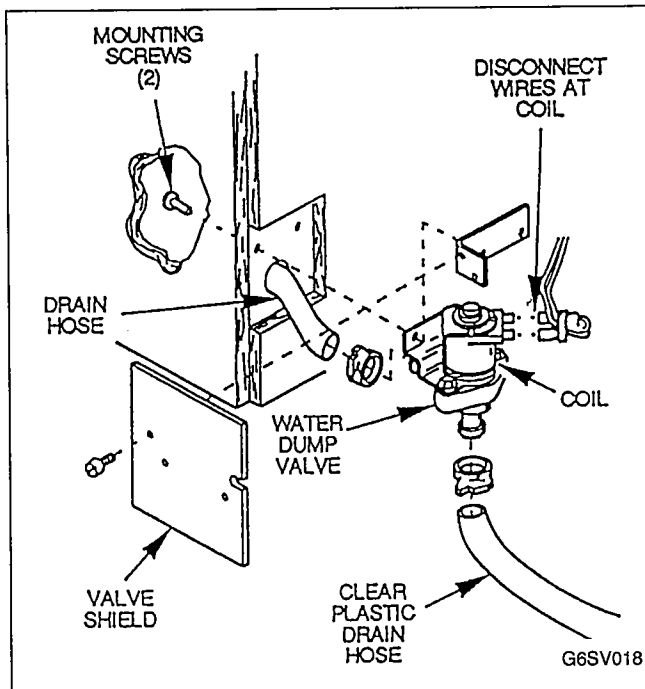

FIGURE 18. WATER DUMP VALVE REMOVAL
3. Check clear plastic outlet drain hose of dump valve, Figure 18, for leakage while the ice machine is in the freeze cycle.
REMOVE WATER DUMP VALVE (Figure 18)